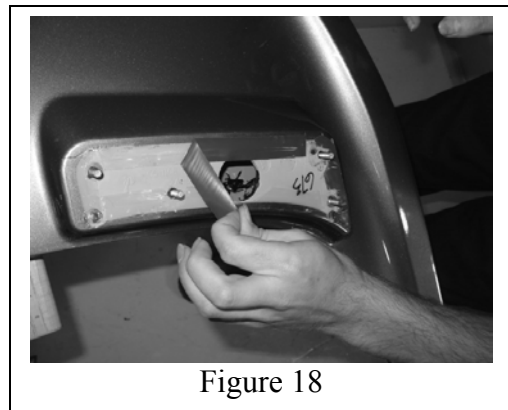

Figure 18
20. After verifying that the wing fits, remove the backing from the tape on underside of wing. (Figure 18)